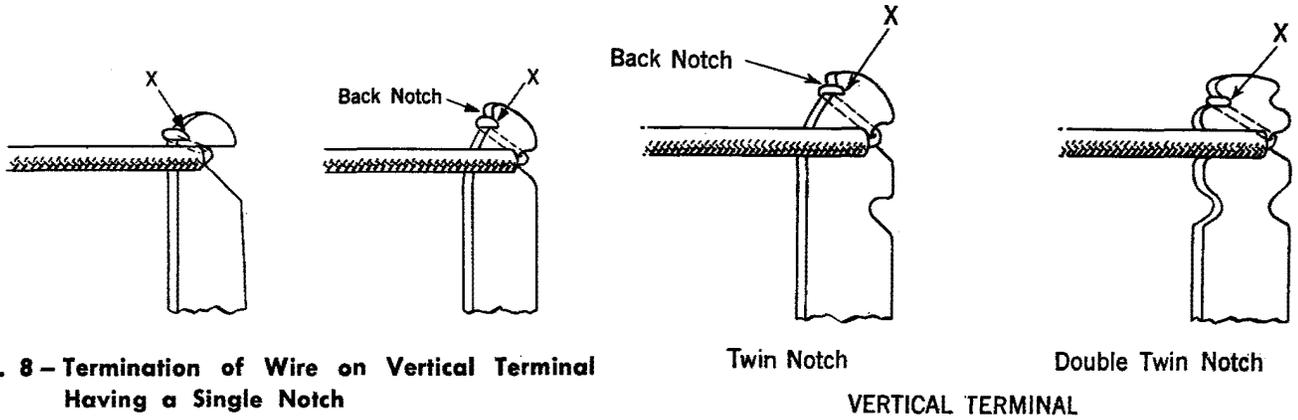

Fig. 8 - Termination of Wire on Vertical Terminal Having a Single Notch
8.11 To terminate a wire on a terminal which is in a vertical position (such as horizontal IDF) having a single notch (either with or without back notch) such as those on a No. 35 or similar type terminal strip, shown in Fig. 8, bring the wire along the left side of the terminal, through the notch, along the right side of the terminal, and across the back, or through the back notch where provided. Break the excess →wire at point "X". 20-gauge wire should be cut →instead of broken.